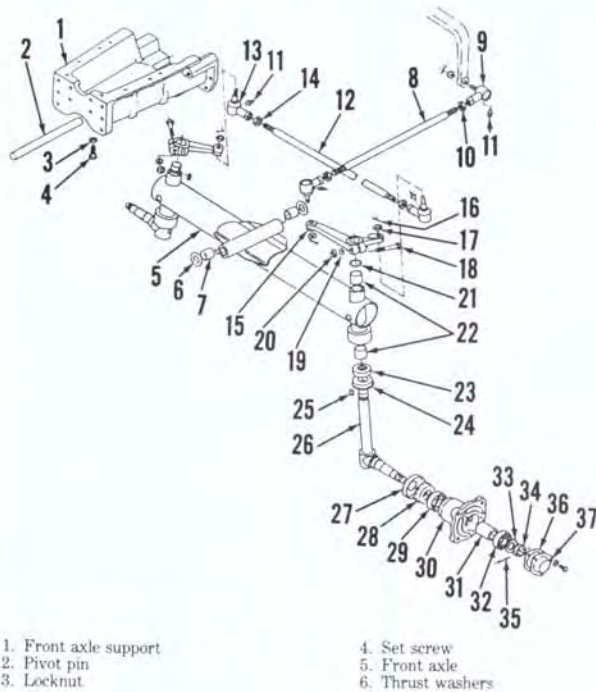

Fig. 1—Exploded view of fixed tread front axle used on Models L175 and L225.
1. Figure 1 shows an exploded view of fixed tread axle type used on Models L175 and L225. Figure 2 is the adjusta-
3. Refer to Fig. 1 for exploded view of front axle and associated parts of the type used on Models L175 and L225, and to Fig. 2 for view of front axle used on Model L260. Refer to Fig. 3 for an exploded view of spindle and hub com-
Fig. 2—Exploded view of adjustable tread front axle used on Model L260. Axle used on L210 is basically similar. Refer to Fig. 3 for identification of spindle and hub components used on Model L210. For parts identification refer to legend in Fig. 1 except for the following: